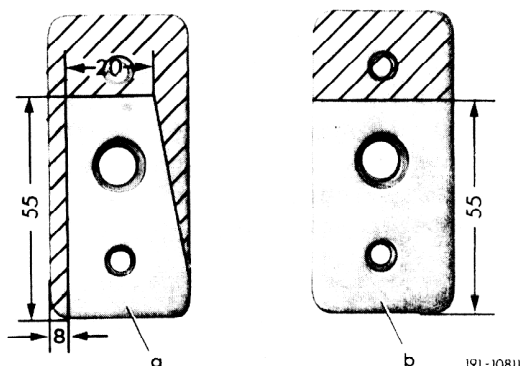

Figure 1 Threaded plate modification
5. Modify the stock threaded plates as shown in Figure 1.
1) For right side, mirror image item "a" of Figure 1